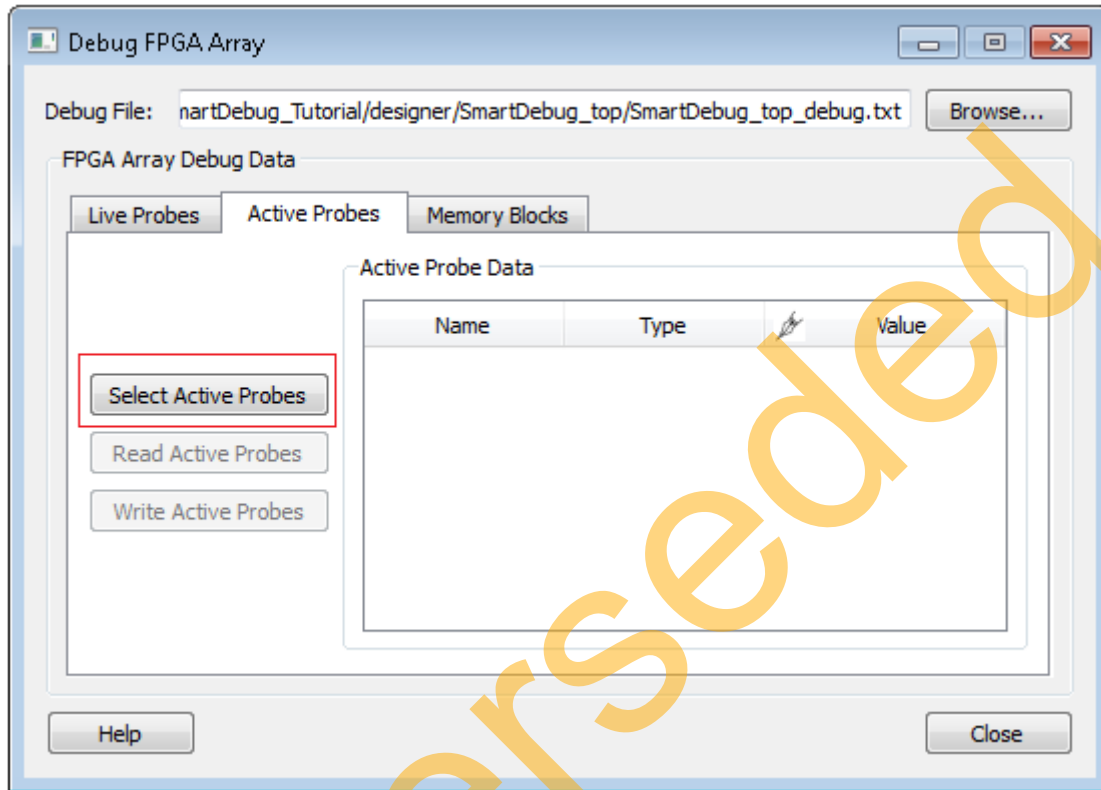

Figure 15 • Selecting Active Probes From the Design
2. Once inside the Active Probes tab, click on the **Select Active Probes** button to define the internal points to monitor, as shown in Figure 15.